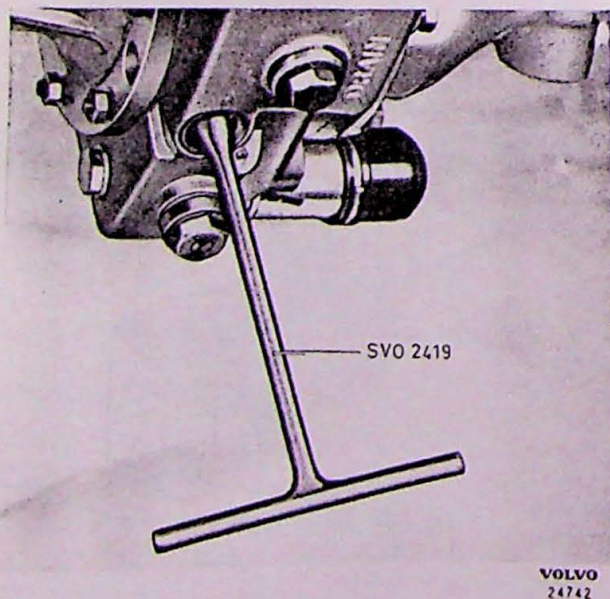
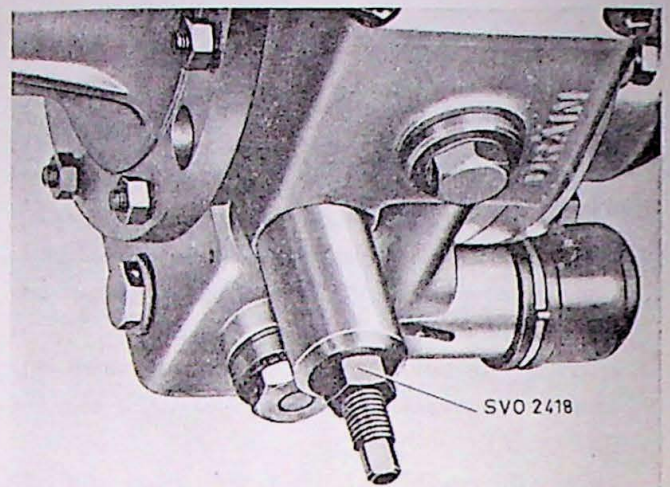

Fig. 3-40. Removing the valve seating, oil pump
Fig. 3-41. Removing the oil pump
2. Remove the plug and take out the spring (8) and ball (6). Remove the valve seating (7) with key SVO 2419, see Fig. 3-40. Clean and check the parts.
4. The pump is removed in the following manner: Unscrew the bolt which holds the pump through the hole in the extension piece (56). Screw puller SVO 2418 into the place of the valve seating and pull out the pump, see Fig. 3-41. Disassemble and check the various parts of the pump.
8. Remove the plugs and take out the parts for the control valve, reducing valve and outlet valve for the pump. Remove the locking screw and take out the oil pump. If the pump does not come out, remove the valve seating with key SVO 2419, see Fig. 3-40. Then pull the pump out with puller SVO 2418, see Fig. 3-41.